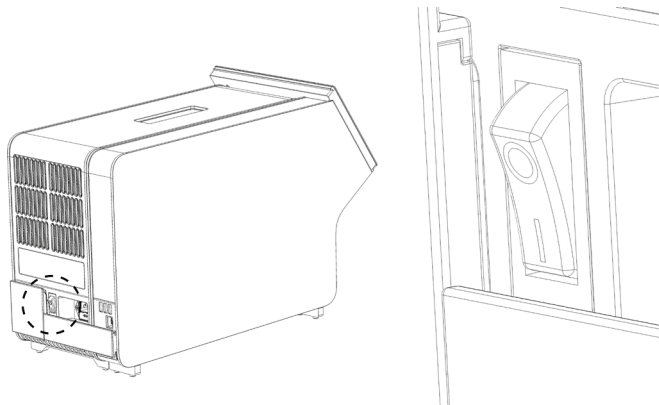

Figure 21. Locating the power switch and setting it to the "I" position.
10. Power ON the instrument by pressing the power switch on the back of the Analytical Module to the "I" position (Figure 21). Confirm that the status indicators of the Analytical and Operational Modules are blue.